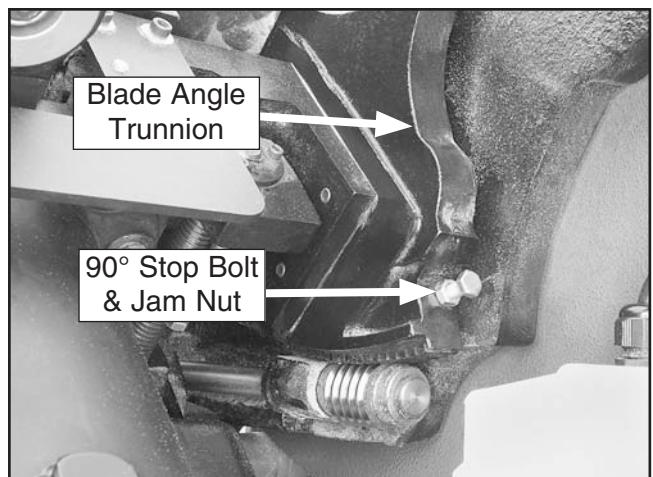

Figure 104. 90° stop bolt and jam nut.
5. Open the motor cover, loosen the jam nut shown in **Figures 104–105**, adjust the stop bolt up or down according to how far off the blade was from 90°, then repeat **Steps 2–3** until the blade stops at 90°.